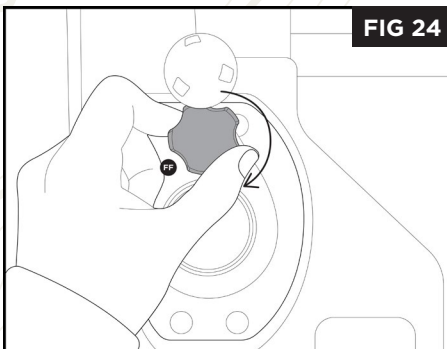

FIG 24
3. Steer the watercraft using the rudder steering knob installed earlier **(I)**. This can be locked down using the rudder tension control knob **(FF)** to hold direction or course **(FIG 24)**.